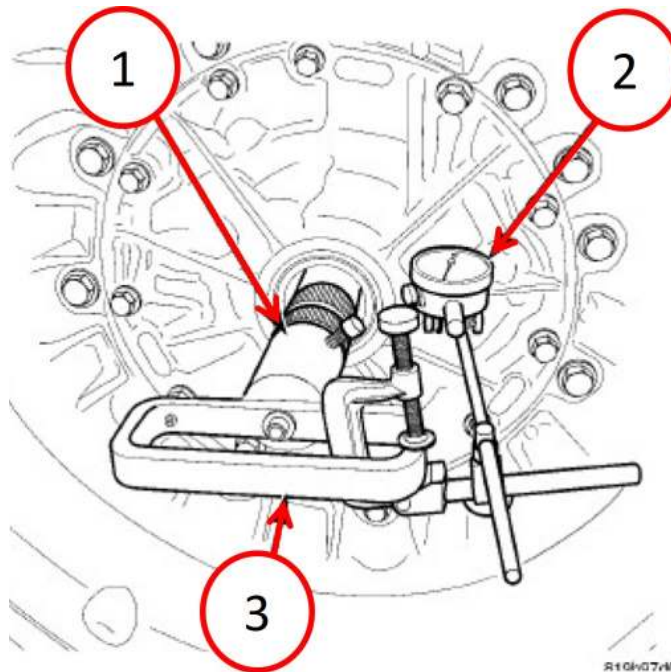

Fig. 3
7. Using special tools Adapter Socket, End Play 8266-22 and the handle from End-Play Tool Set 8266B and Dial Indicator C-3339A, measure and record the input shaft end-play Fig. 3.